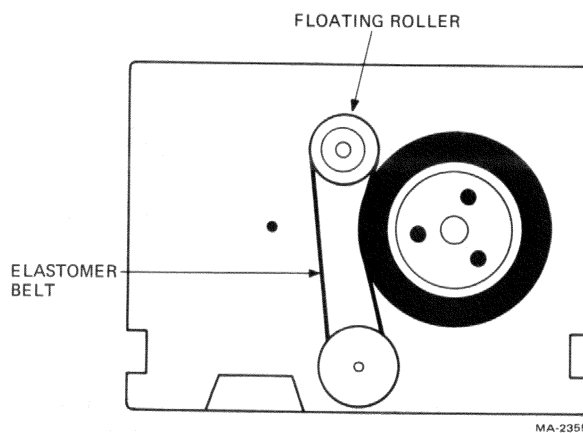

Figure D-4 Stretch the Belt with the Floating Roller
2. Remove the floating roller (Figure D-4).